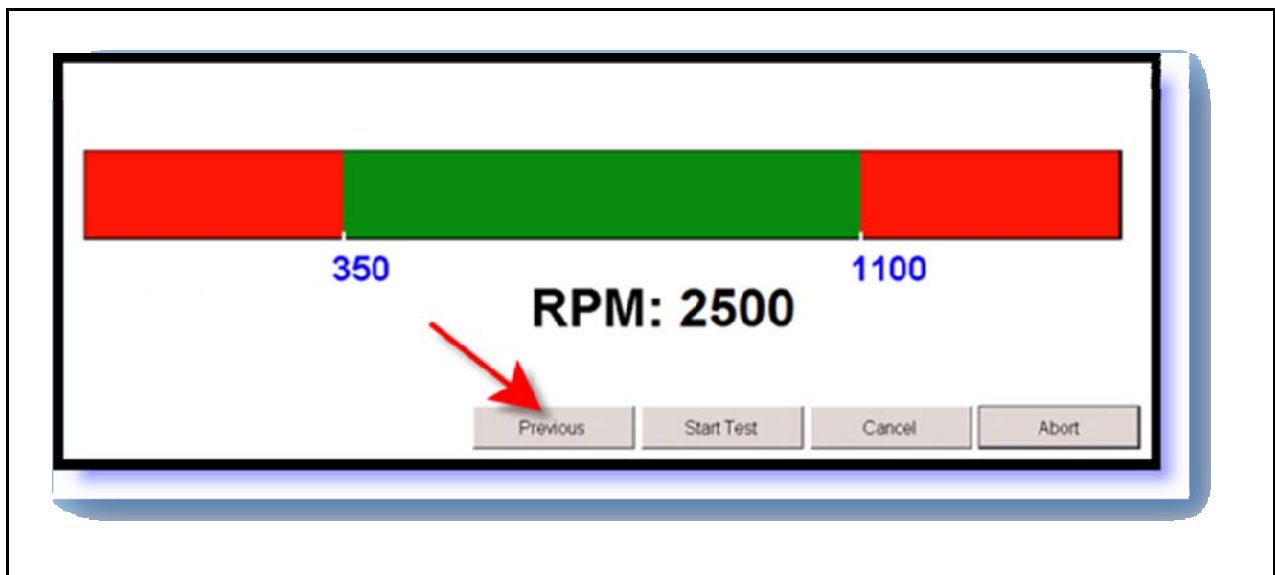

Figure 5-1: Select "Previous" from RPM Screen
- See Figures 5-1 and 5-2 below.